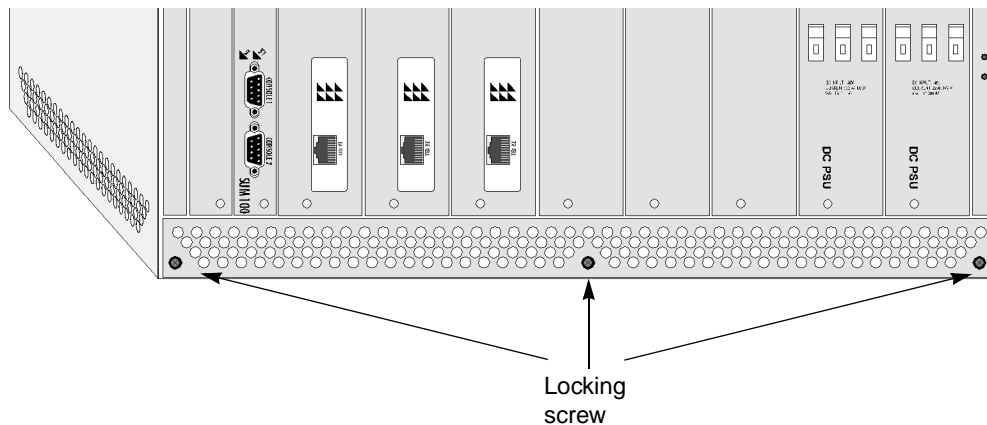

Figure 6-18. Removing the SA 1200 Air Filter Grille
1. Using a #1 Phillips screwdriver, loosen the locking screws at the corners of the air filter grille, and place the grille to one side (see Figure 6-18).